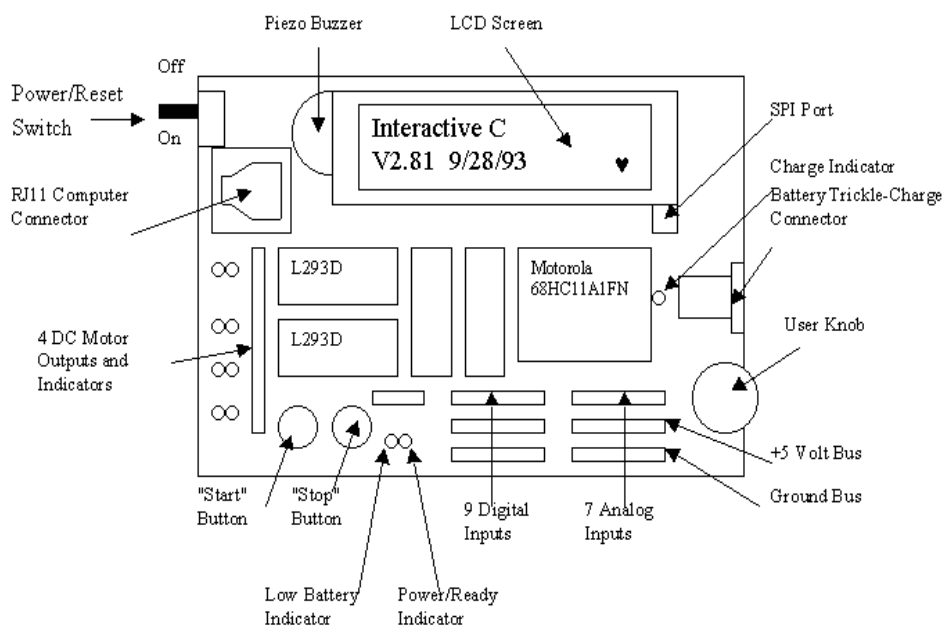
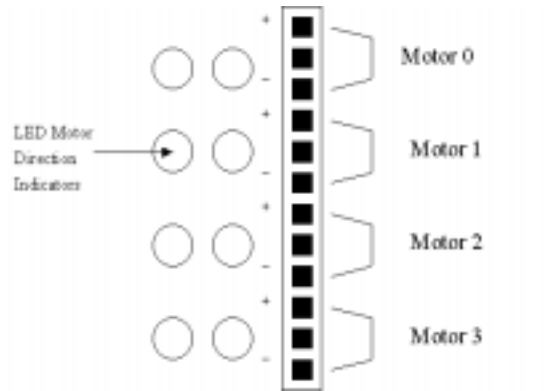

Figure 1: Handy Board Labeled Features
Figure 2: Arrangements of Motor Output Ports
The Handy Board is a small experimental board developed by Fred Martin of the MIT Media Laboratories. The main features of the Handy Board are a Motorola 68HC11 microprocessor chip, four DC motor outputs, seven 8-bit analog inputs, nine digital inputs, and a 16x2 LCD screen, as well as other features. It is easily programmable using Interactive C (a C programming language) developed by Randy Sargent of MIT. A diagram of the Handy Board with labeled features is shown below in Figure 1.
2. One end of the RJ11 modular cable (looks like a telephone cable) should be plugged into the computer connector port on the Handy Board (see Figure 1).
3. Insert the plug-in transformer into a wall outlet. Insert the other end into the receptacle on the Handy Board battery trickle-charge connector (see Figure 1). This step will keep the batteries on the Handy Board charged while you are working on it, but is not necessary if the batteries are fully charged.
The Handy Board is now ready to be turned on. Turn the power/reset switch on the Handy Board on (see Figure 1). The Handy Board screen should read:
Now type `beep();<enter>`. You should hear a short tone coming from the piezo buzzer (see Figure 1). Try typing `tone(800,.5);<enter>`. You should hear a tone at 800 Hz for 5 seconds. Other commands are included at the end of this lab handout. Explore them later.
Turns on motor port m at power level p. There are four motor ports on the Handy Board, labeled Motor-0, Motor-1, Motor-2, Motor-3 (see Figure 1 and 2 for location). The power level ranges from 100 for full on forward to -100 for full on backwards. Although the range of power levels goes from -100 to 100 in increments of 1, there are actually only 15 motor speeds (See Table II below).
The motor driver outputs (see Figure 1 for location of motor outputs on the Handy Board) are arranged as shown below in Figure 2:
Returns the position of the user knob (see Figure 1) as a value between 0 and 255.
Returns the value of the button labeled “start” (see Figure 1). Returns 1 if pressed and 0 if released.
Returns the value of the button labeled “stop” (see Figure 1). Returns 1 if pressed and 0 if released.